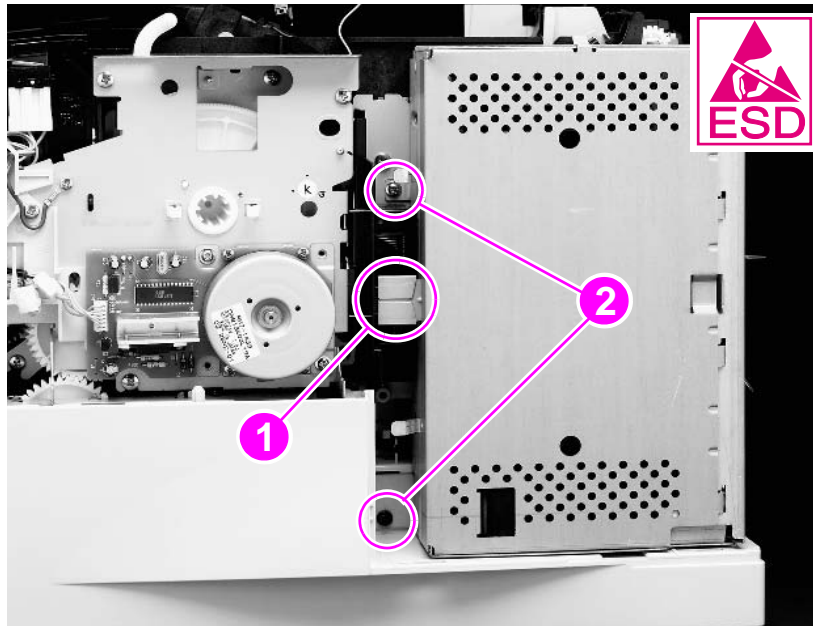

Figure 55. Removing the formatter assembly
- 5 Open the formatter access door by pulling on the large metal tab (see figure 55 on page 151).